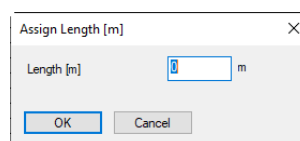

Figure 2.6.3: Assigning the length using *List data*
3. Rightclick *Length [m]*, which will open the dialog window **Assign length** (fig. 2.6.3)